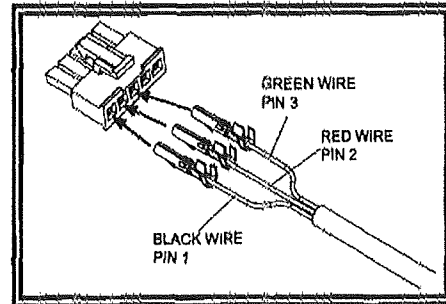

Figure 3
6. Turn pins clip side up, and insert pins into connector as shown in Figure 3.